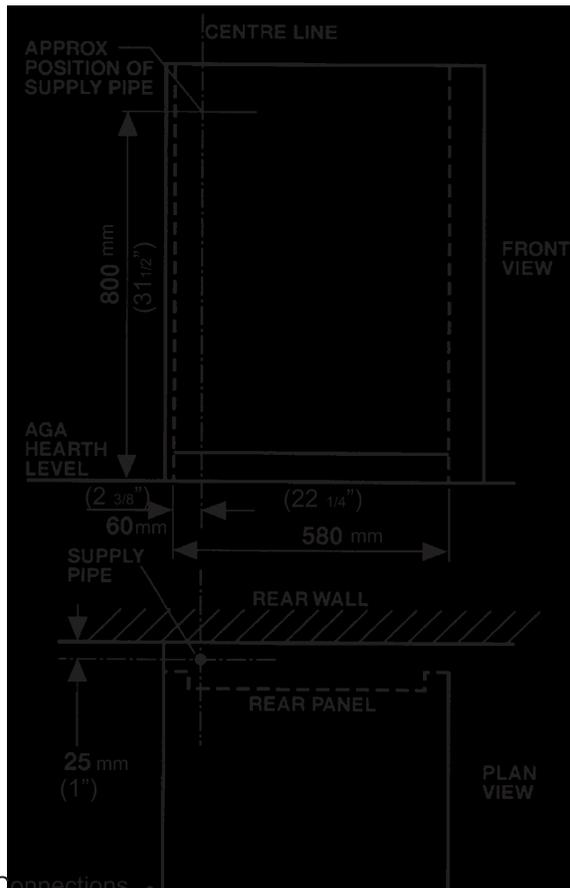

Fig 5 - Gas Supply Connections
- a) Mark off appropriate position on wall for gas supply to cooker (See Fig. 2). Dimensions N and O, (see also Fig. 5).